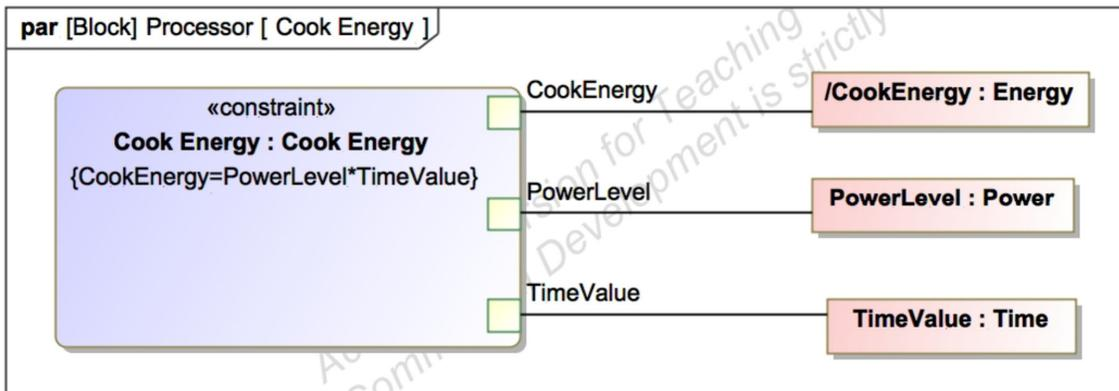

Figure 35. Parametric Diagram
- D. Fig. 35 is a Parametric Diagram that has the new Constraint Block as a Constraint Property. You can build this Diagram manually: